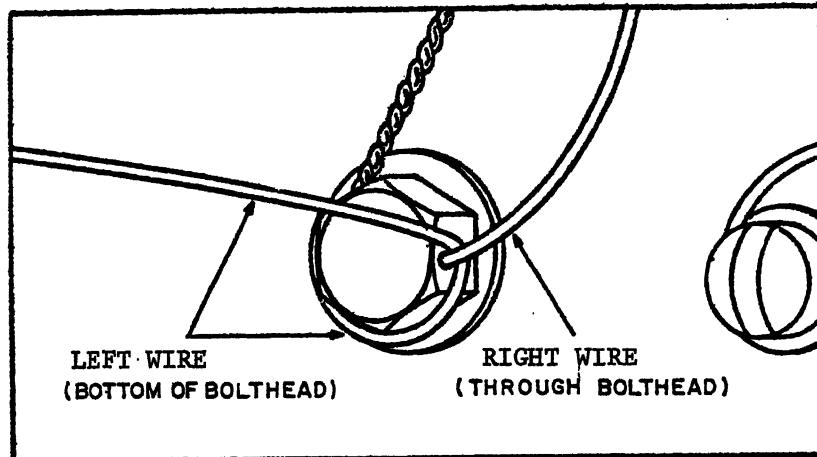

FIGURE 23
f. Pulling the wire tight with the duckbills, wrap the LEFT wire around the bottom of the Bolthead and behind the RIGHT wire on the right side of the Bolthead; give one COUNTERCLOCKWISE twist. See figure 23.
CLOCKWISE twist. See figure 23.